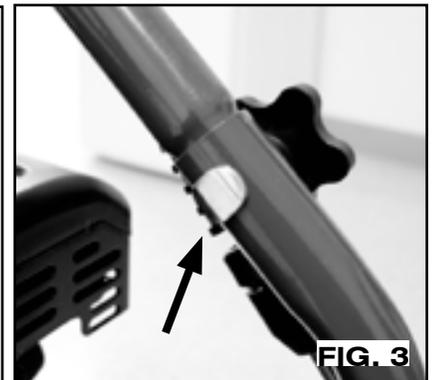

FIG. 3
- Slide handle onto bottom portion of frame assembly. (Fig. 3)
- Insert saddle bolts into appropriate hole location and attach with knobs (both sides). Tighten securely. (Fig. 3)